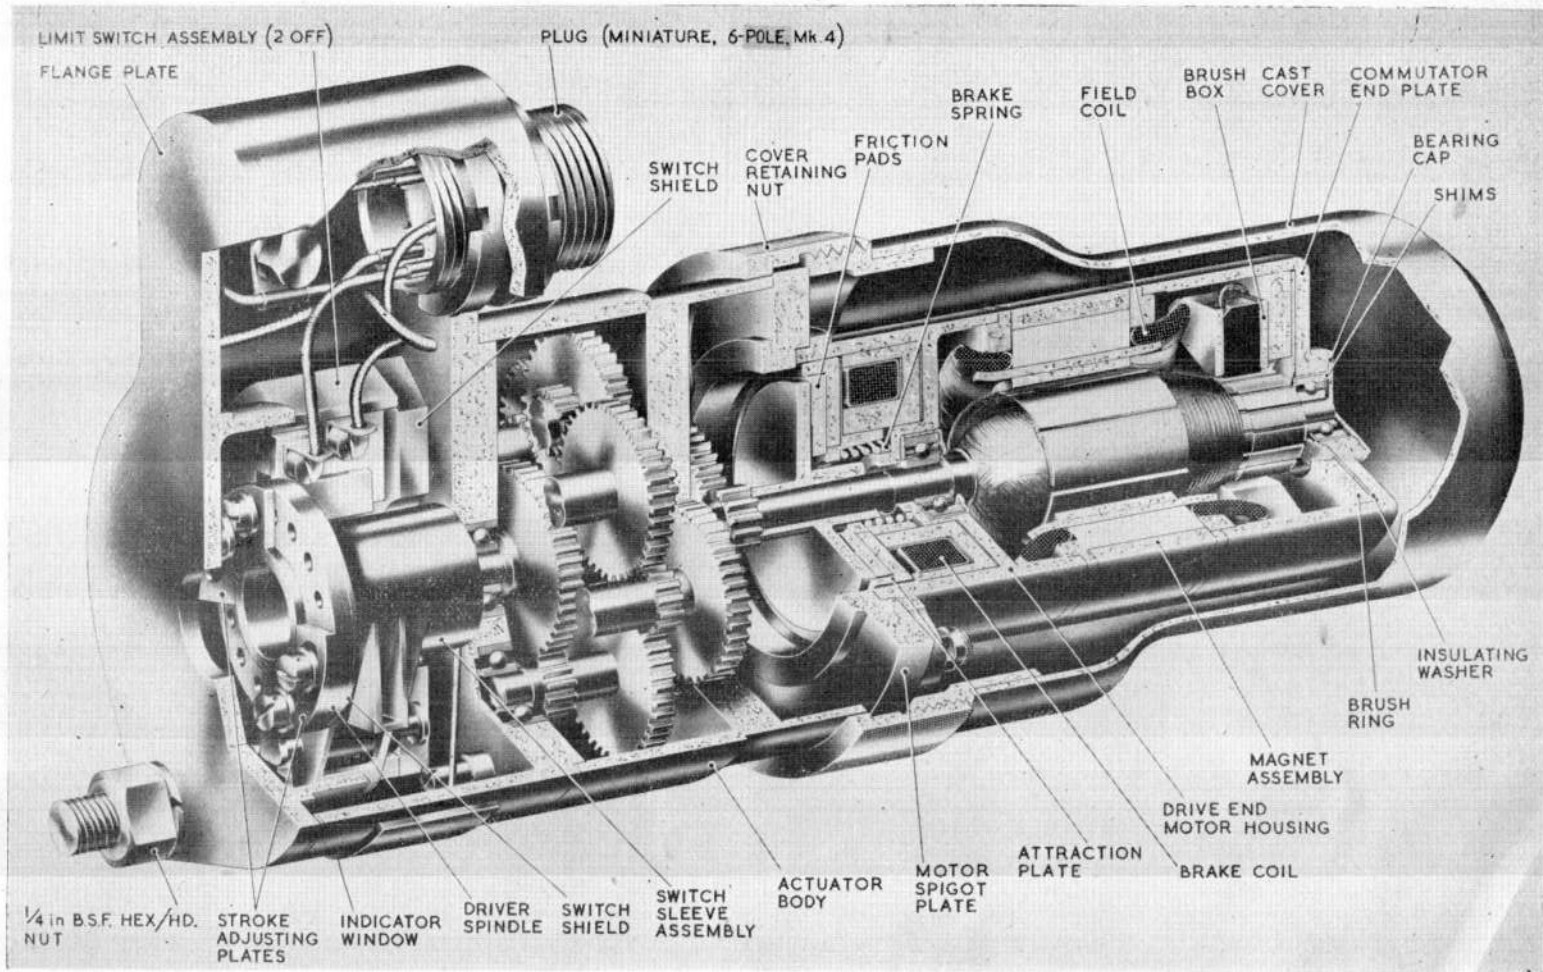

Fig. 2. Sectional view of actuator
3. The motor (*fig. 2*) is of the split-field, series wound, reversible type, incorporating an electro-magnetic brake, which rapidly stops the motor when the supply is switched off and effectively prevents overrun of the armature shaft. It is attached to a spigot plate interposed between the motor housing and gearbox by means of studs and 4 B.A. nuts and washers.
10. The indicator forms part of the switch assembly. A white line is painted on the end of the trip cam and may be viewed through a window in the switch housing (*fig. 2*). The words OPEN and SHUT are engraved on the frame of the window, at the appropriate ends. As the actuator operates, the white line is seen to move across the window, coming to rest against the word indicating the position of the load, i.e., OPEN or SHUT.